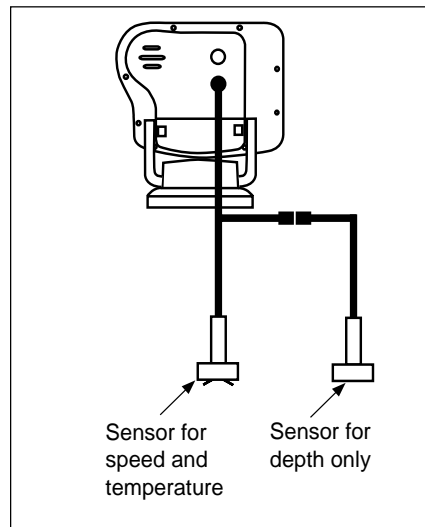

Fig. 2-16
2. Plug the cable from the depth-only transducer into the receptacle connector on the optional speed- and temperature-only transducer. The speed- and temperature-only transducer then connects at the transducer receptacle of the FishFinder L470. This is shown below in Fig. 2-16.